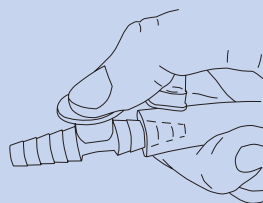

Fig. 21
2. Keep the opening of the suction tube (fig. 1 (I)) and the fingertip (fig. 21) shut.
2. Control the aspiration procedure and the desired vacuum via the additional air opening on the fingertip (fig. 21).